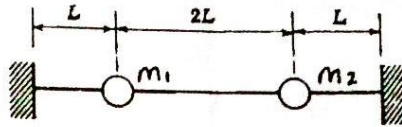

Fig. 3
- (b) Refer Fig.3 where the given masses  $m_1$  and  $m_2$  are attached to a string having high tension  $T$ . Frame the governing equations and find the natural frequencies of the system for small vertical oscillations of the masses. Assume that the tension in the string remains constant during the motion.